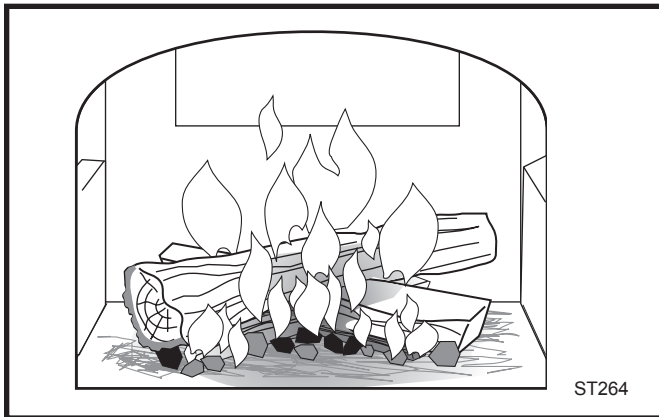

Fig. 34 Add larger pieces of wood as the fire begins to burn well.
4. If your Defiant has been broken-in previously using Steps 1-3, continue to build the fire gradually. Add larger wood with a diameter of 3-4" (75-100 mm). Continue adding split logs of this size to the briskly-burning fire until there is a glowing ember bed 2-3" (51-75 mm) deep. (Fig. 34) A good ember bed is necessary for proper functioning of the non-catalytic system and may take an hour or more to establish.